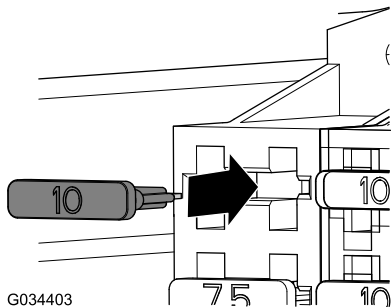

Figure 22
3. Install the fuse (10 A) into the fuse-block socket for the LED lights (Figure 22).